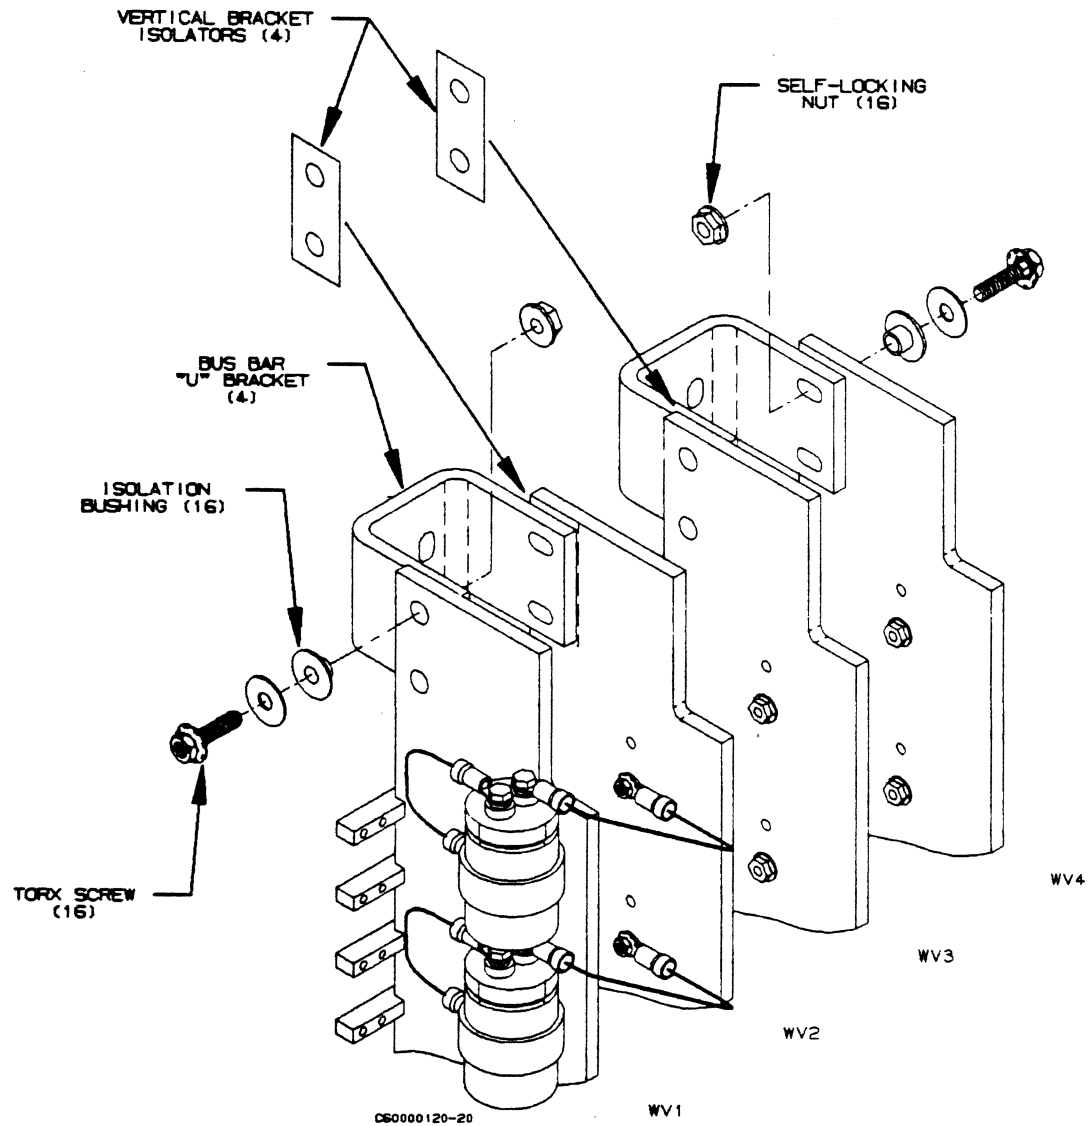

Figure 3-13. Bus Bar Positioning and Mounting
- ___ 4. Hold bus bars in position while installing isolation bushings, nuts, bolts, and washers in top and bottom of each bus bar (figure 3-13). Note location of isolation bushings. Do not tighten.